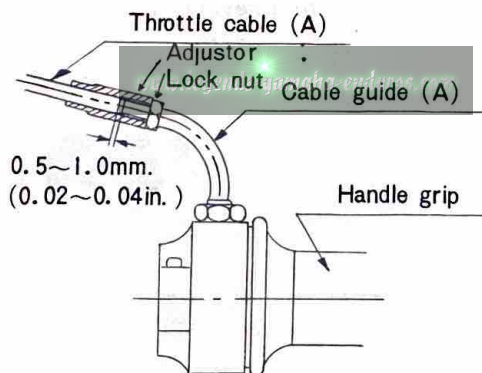

Fig. II-3-6
- b. Next, adjust throttle cable(A) so that the gap as shown in Fig. II-3-6 below will be between 0.5 and 1.0 mm. (0.02~0.04 in.)